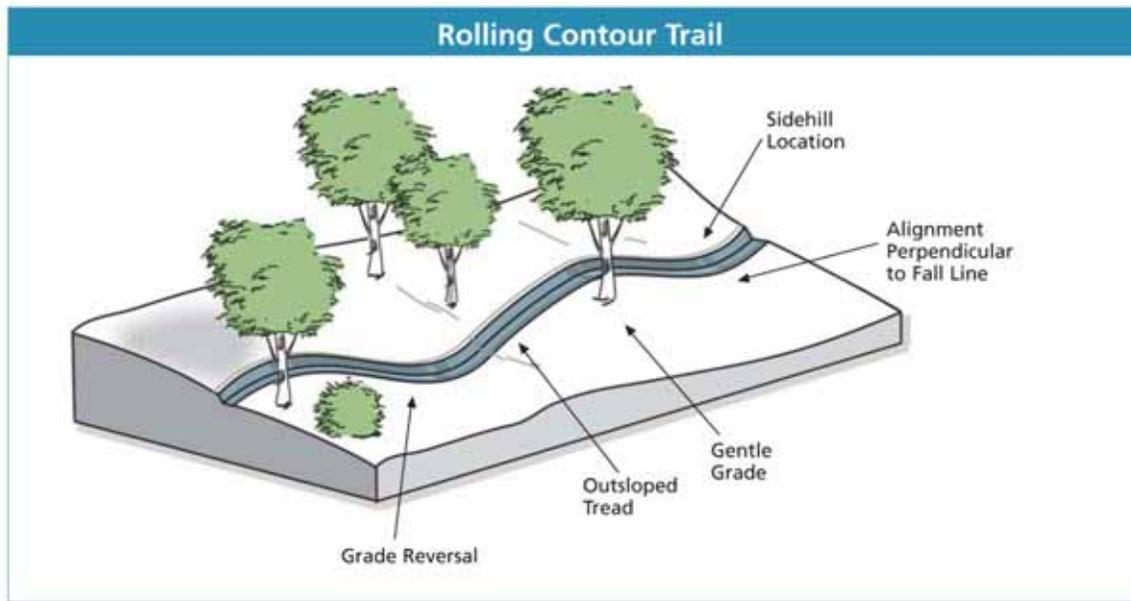

Figure 1: Rolling Contour Trail
5.1 Trail Construction (USFS Bicycle Class 3) (figures 1 - 4)
5.2 Trail Construction (USFS Bicycle Class 2) (figures 1 - 4)